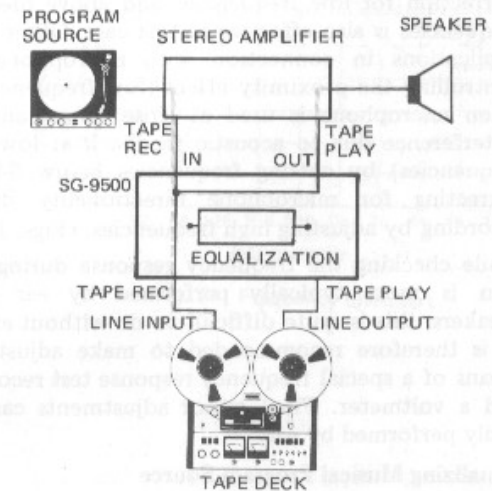

Fig. 8
**PLAYING PROGRAM SOURCE WITHOUT EQUALIZATION (Fig. 8)**